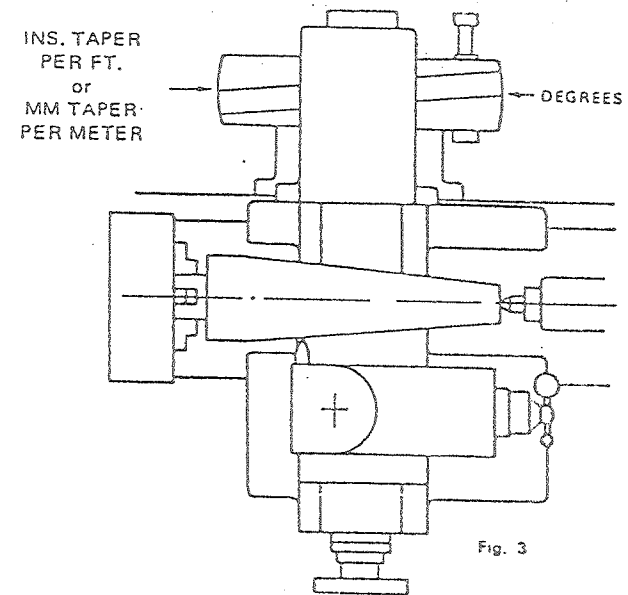

Fig. 3
(3) If the lathe is fitted with a taper turning attachment, fig. 3 then more accurate tapers, either external or internal, can be produced than by the two preceding methods. By the use of this attachment, the lathe centres are not of course taken out of alignment, so that the bearing surfaces are unaffected.